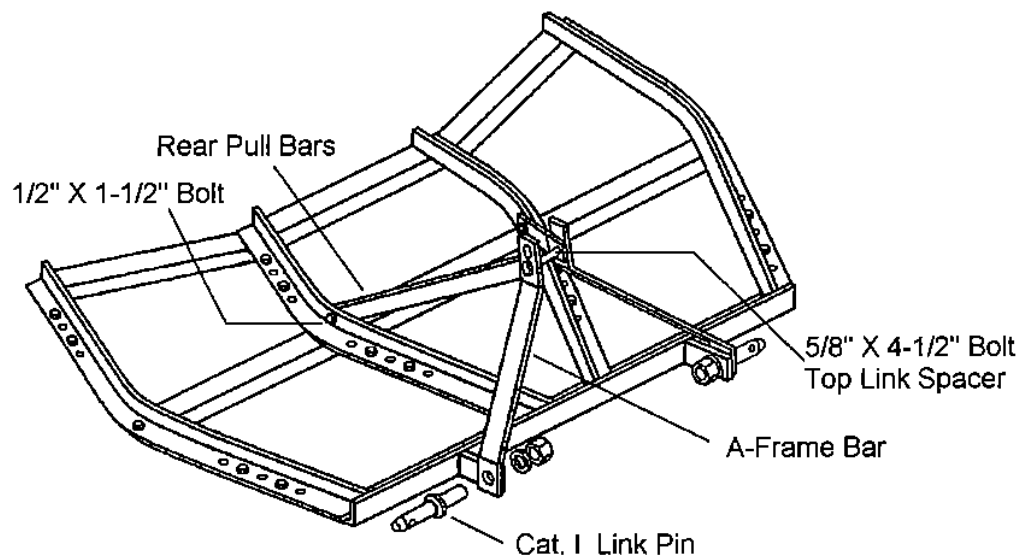

FIGURE 3 -- MODEL 233 ANGLE FRAME
### **MODEL 233 Hitch Assembly (Refer to Fig 3)**
2) Travel at a speed suitable for terrain and other conditions. Transport at speeds compatible with safety and no more than 20 MPH (30 KPH). Use care when transporting on rough terrain. Hitch Assembly (Refer to Fig.3)